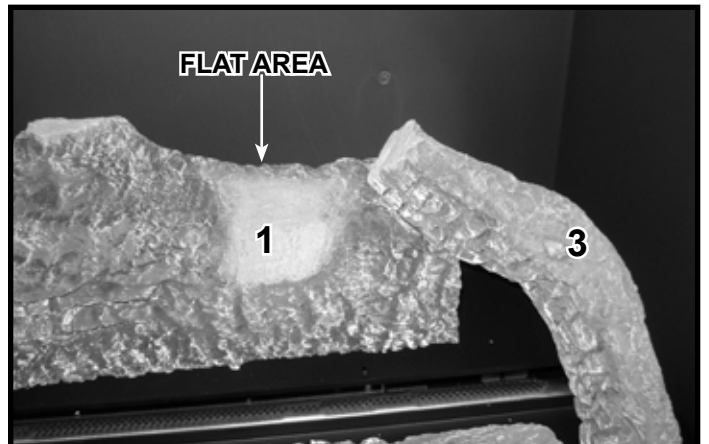
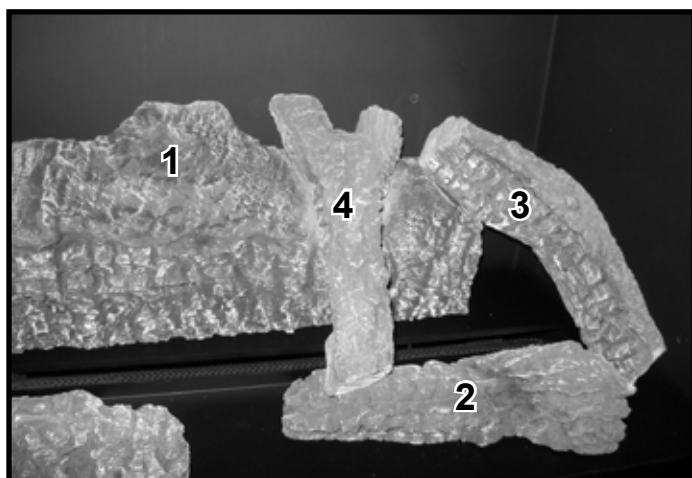
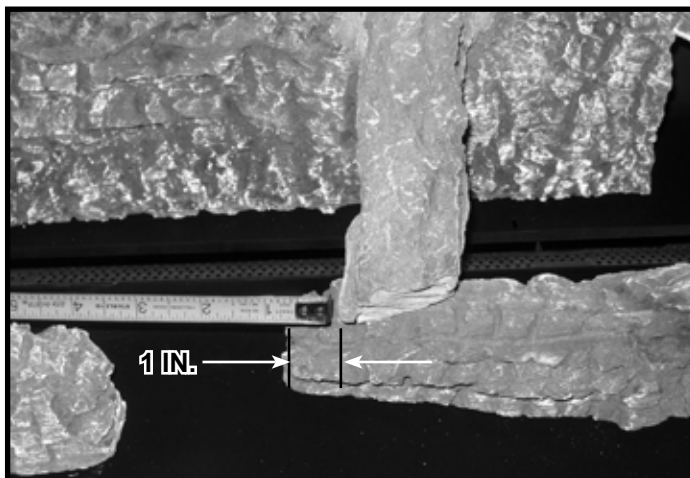

Figure 10. Flat Area of Log #1 Used for Log #4 Placement
Figure 13. Log #4 (1st of 2)
Figure 14. Log #4 (1st of 2)
**Log #4 (2033-720):** Log #4 is used twice in this log set. The right log is located by placing the “Y-Shaped” end on the flat area of Log #1 and setting the other end on the right side Log #2. See Figure 10 and Figure 13. The log should be approximately one inch from the end of the right side Log #2. See Figure 14.